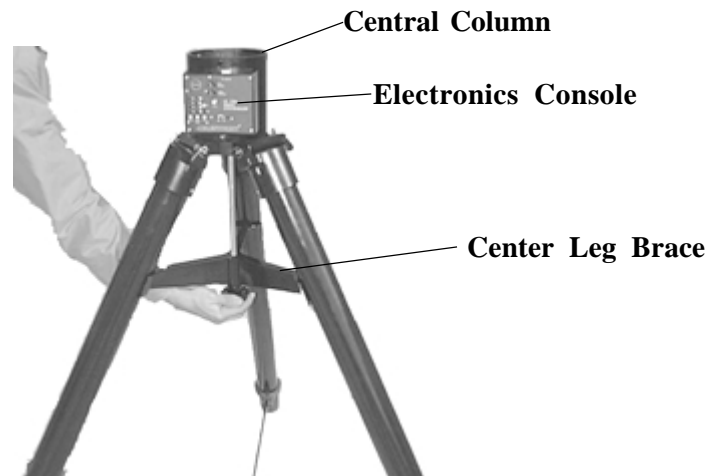

Figure 2-4
- 1 Position the central column so that the electronics module is right side up (see Figure 2-4).